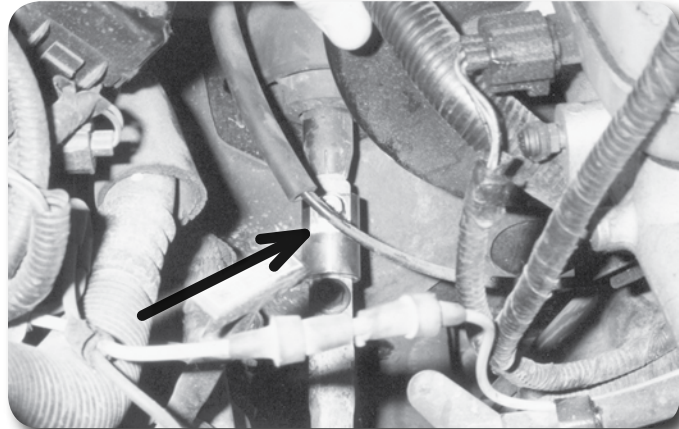

Figure 11
30. Install the lower steering shaft on the extension by aligning the marks on the shafts **Figure 11**. Fasten the lower shaft to the extension with the stock hardware. Torque factory and 3/8" hardware to 35 ft-lbs. *Use Loctite® on all steering hardware.*